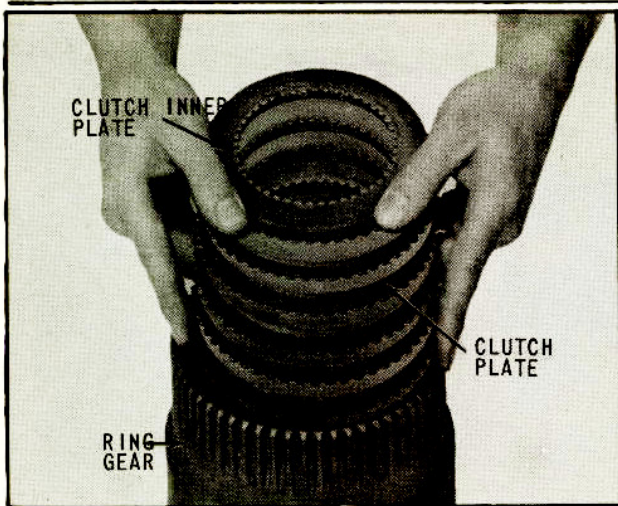

Fig. 30 Installing Forward Clutch Plates
21. Lubricate seven (7) clutch inner plates and six (6) outer clutch plates, arrange and assemble, as shown in (Fig. 30).